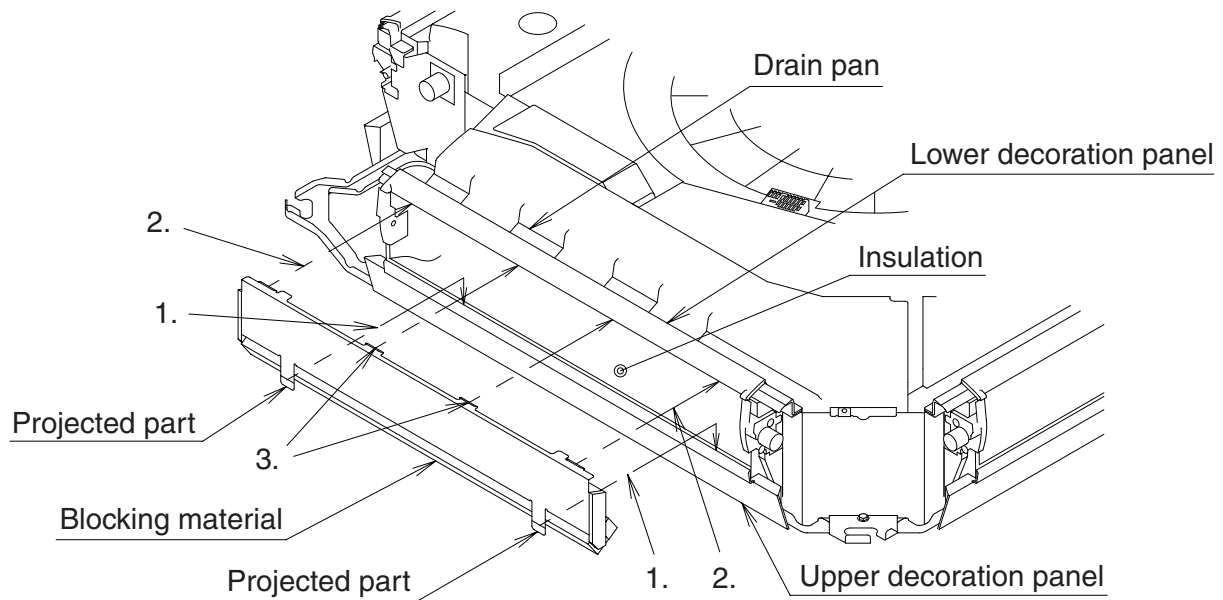

Fig. 12
(2) Fix the blocking material to the air outlet. (Refer to Fig. 12 and Fig. 13)